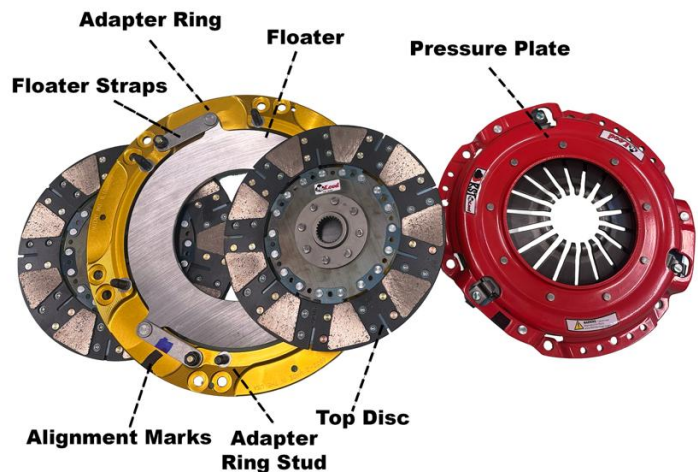

Figure 2
2. Lift off pressure plate and top disc from the adapter ring. Set aside. (Adapter ring may be gold, red, or black depending on your application) Figure 2. **Do NOT disassemble the floater and adapter ring!**